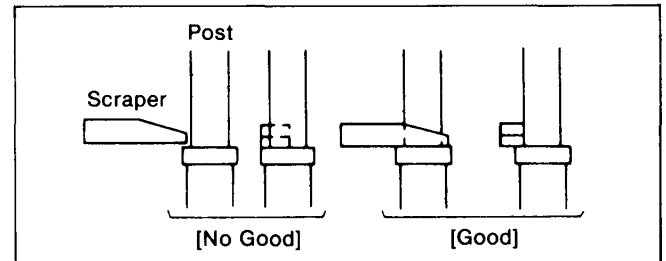

Figure M5
4. Place the scraper of Reel Table Height Gauge as shown in Figure M5.